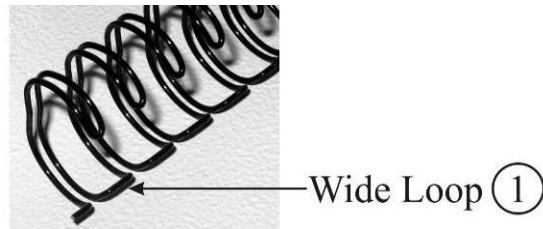

Fig. 6a
STEP 6, Load Wire: See Figure 6a.